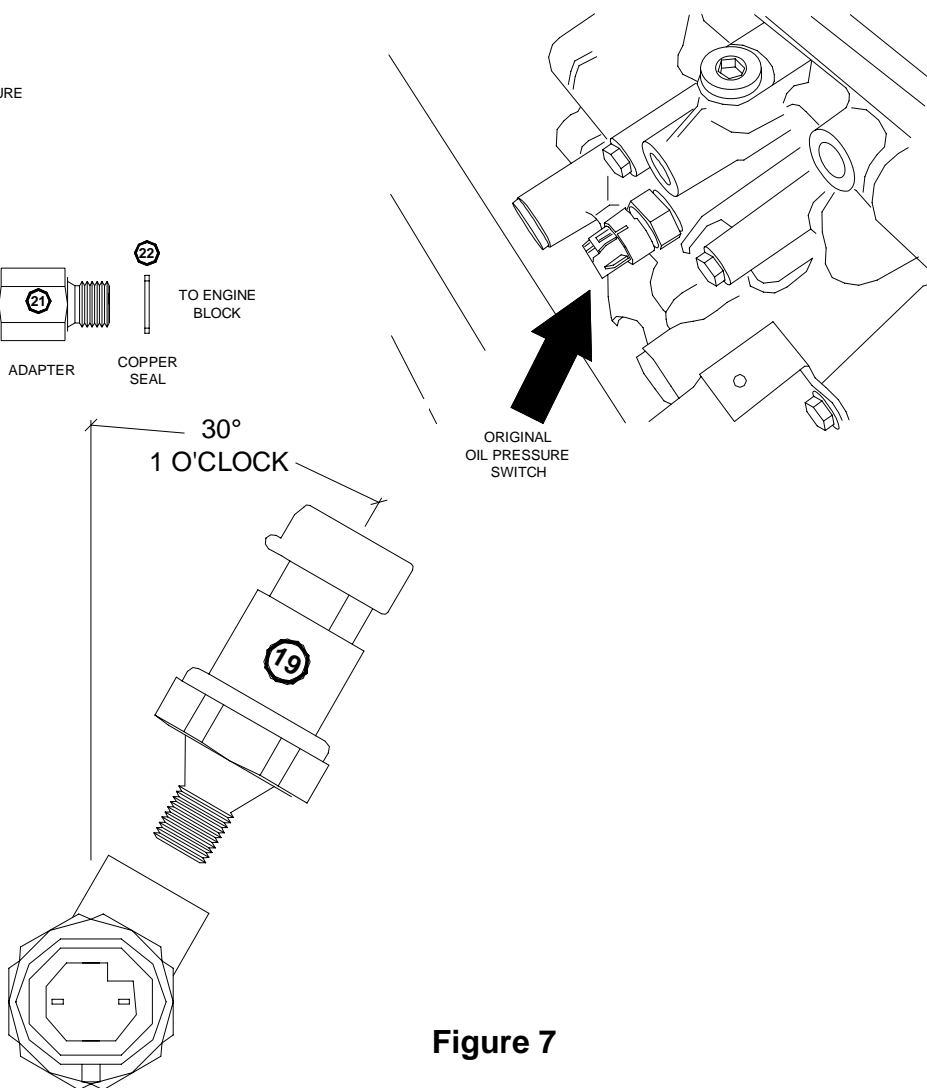

Figure 7
- Install the straight adaptor (Item #21) and the copper seal (Item #22) into the port where the original pressure switch was located. Tighten the fitting properly. Ensuring that the oil pressure switch adaptor (Item #20) has the o-ring, snap ring, retaining ring and lock nut installed on the fitting. Install the oil pressure switch adaptor (Item #20) into the straight adaptor (Item #21) and orient branch of the fitting to the 1 o'clock position as shown in Figure 7. When orientation is correct, tighten the lock nut to complete installation of the adaptor.